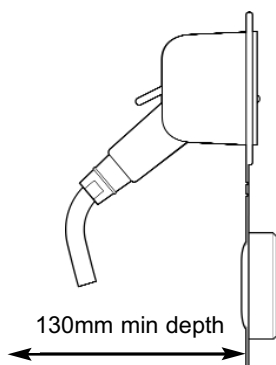

Fig 1 Typical Mounting Position - Angled Holder
1. Select a suitable location, above the waterline, and cut out a circular hole diameter 82mm (3 1/4") (See Fig 1 and 2). Please note: minimum mounting surface thickness: 3mm (1/8") maximum mounting surface thickness 19mm (3/4")